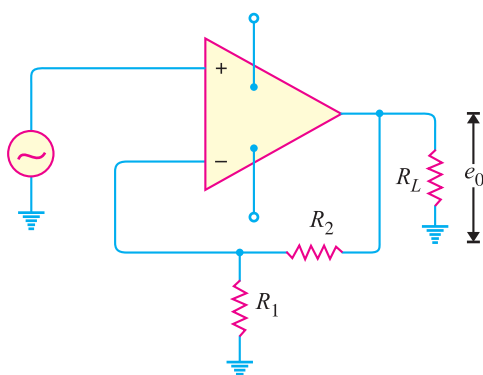

Fig. 13.30
6. Fig. 13.30 shows the negative feedback amplifier. If the gain of the amplifier without feedback is 10^5 and $R_1 = 100 \Omega$, $R_2 = 100 k\Omega$, find (i) feedback fraction (ii) gain with feedback. [(i) 0.001(ii) 1000]